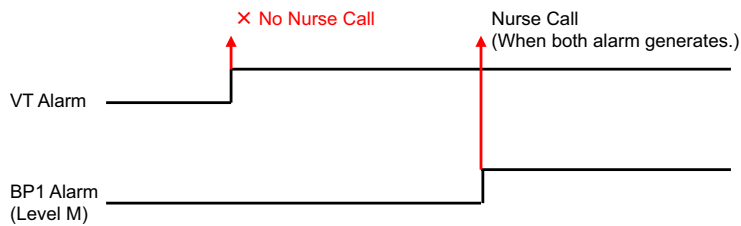

Figure 6: Custom Notification
- ♦ When all the preset custom alarm factors generates alarm, it will be notified to nurse call (Figure 6).